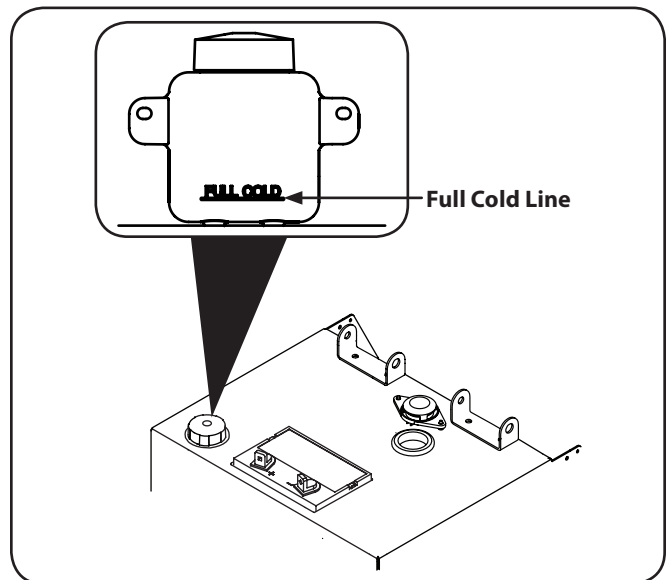

Figure 1-2
1. Pivot the operator's seat forward and clean the reservoir cap and the area around the cap to prevent debris from contaminating the transmission oil. See Figure 1-2.
2. Turn the reservoir cap counterclockwise to re-move, then check the oil level in the reservoir. Oil should be visible at the bottom of the cup, but the oil level must **NOT** be above the "FULL COLD" line. See Figure 1-2. **DO NOT FILL THE RESERVOIR.**